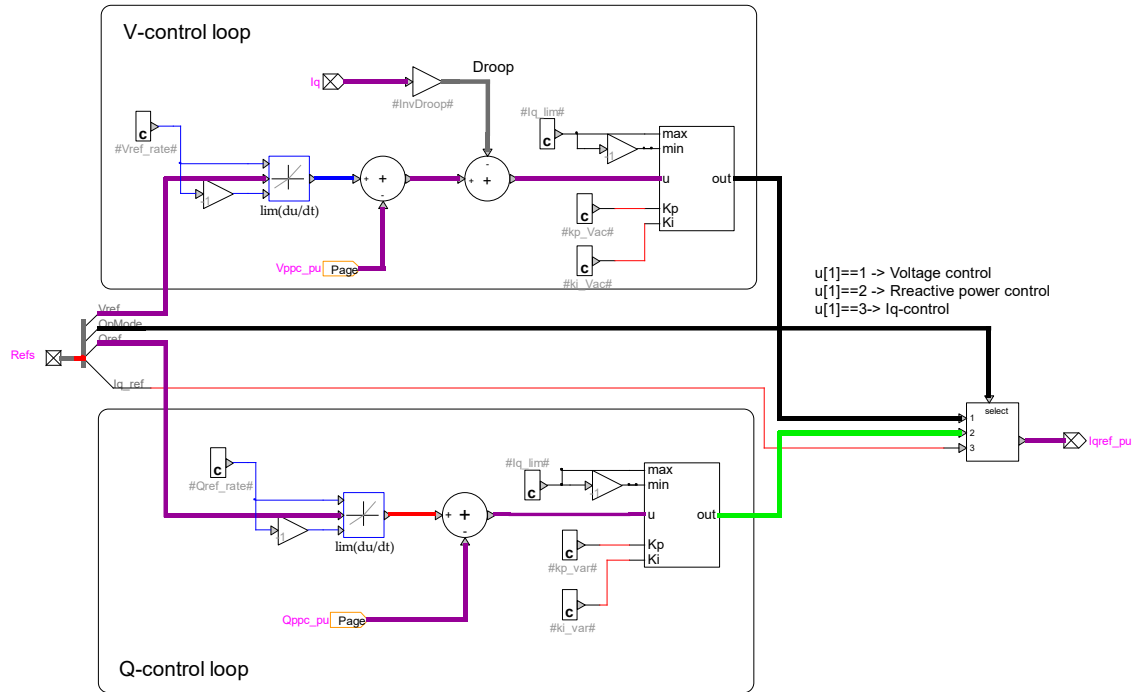

Figure 5: q-axis outer loop control (Reactive power regulation) in StatcomPCCcontrol subcircuit.
Proportional Integral (PI) regulators are used. The output command of these loops is the q-axis current reference (see Figure 5). In V-control mode, a droop based on measured q-axis current is utilized [2].